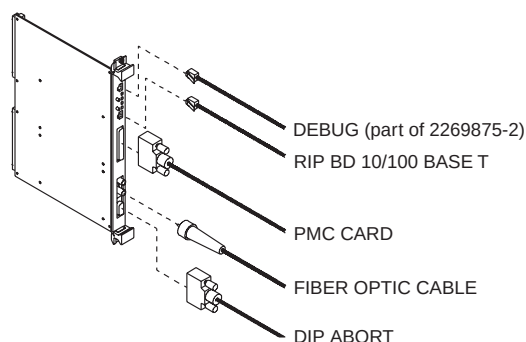

Figure 16 Motorola Board - Connections
- 11.) Install the four (4) allen head screws (2142006) and two (2) nylon flat washers (2104490) on the Pegasus Image Generator circuit board faceplate. The washers should be used for the mounting holes on the "tabs" at the left of the faceplate.
- 12.) Place the Pegasus Image Generator circuit board into the card cage and tighten the four (4) allen head screws to properly secure the board.
- 14.) Procure the two (2) knurled thumb screws from the kit, and install them into the faceplate of the Motorola RIP board.
- 15.) Reconnect the cables to the Motorola RIP board, as shown in Figure 16. Then reinstall the board, using the knurled thumbscrews.